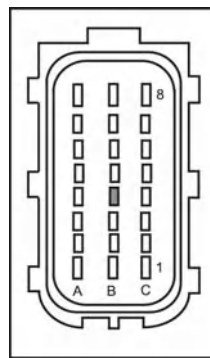

Fig. 4b
- b. Locate the Pink w/Gray Stripe wire in the black connector, pin location B4. This should be 12 volt key switched power. Check this pin with a volt/ohm meter or test light with a hard point test lead, back probe tool or paper clip. (see figure 4b)